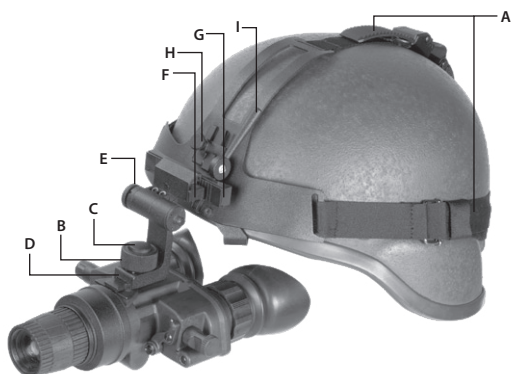

FIGURE 3-3. MOUNTING THE NYX-7 PRO TO A HELMET
1. Attach the mount to the helmet as shown in Figure 3-3.
2. Adjust and tighten the straps (A).
3. Loosen the screw (B). With the button (C) pushed down, insert the Nyx-7 PRO rail into the guide (D) of the helmet mount bracket. Tighten the screw (B).
5. Push the button (F) and move the unit along the slide-rail (G) until the most comfortable position is reached.
6. To adjust the unit for comfort, loosen the screw (B) and move the unit along the guide (D).
7. Turn the lever (I) and move the unit along vertical slide-rail until the most comfortable vertical position is reached.
8. To remove the Nyx-7 PRO and turn it around, push the button (E) and lift the unit up until it reaches the topmost position.
9. Push the same button (E) to lower the Nyx-7 PRO into the proper viewing position.
10. To remove the Nyx-7 PRO from the helmet mount, loosen the screw (B), push down on the button (C), and slide the unit out of the guide (D).
11. To remove the flip-up mechanism from the helmet mount, loosen the lever (I), pull the knob out (H), and slide the flip-up mechanism out of the vertical rail.